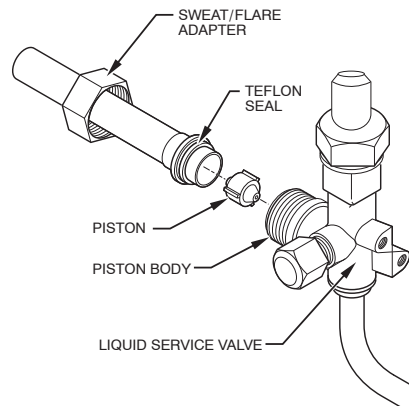

Fig. 4 – Liquid Service Valve with Sweat Adapter Tube
4. Remove Teflon washer from bag and install on open end of liquid service valve. (See Fig. 4.)